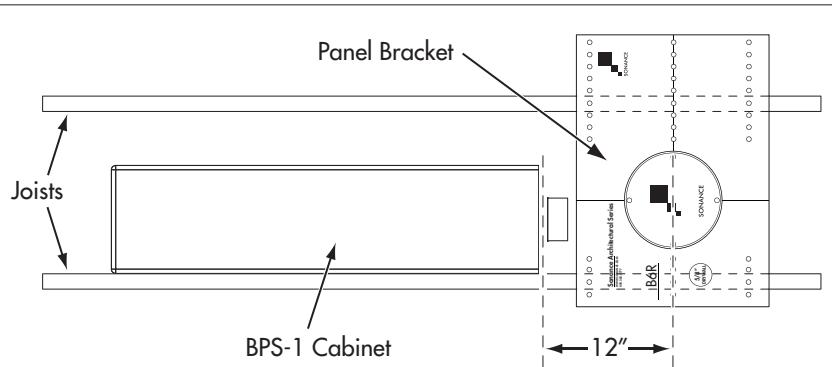

Figure 2: Positioning the BPS-1 Relative to the Panel Bracket
**IMPORTANT: THE CENTER OF PANEL BRACKET'S SPEAKER OPENING SHOULD BE APPROXIMATELY 12" FROM VENT TUBE END OF BPS-1 ENCLOSURE (SEE FIGURE 2). MAINTAINING THE VENT TUBE'S PROPER LENGTH IS INTEGRAL TO THE BPS-1'S ACOUSTIC PERFORMANCE. LENGTHENING OR SHORTENING THE VENT TUBE TO FIT A DIFFERENT DISTANCE WILL ADVERSELY AFFECT THE BPS-1'S PERFORMANCE.**
- Determine the location for the Architectural Series Panel Bracket and install it first (its location may be influenced by the locations of other AS speakers in the room). Then establish the location for the BPS-1 cabinet relative to the Panel Bracket. The vent end of the BPS-1 cabinet should be located 12" from the center of the Panel Bracket's speaker opening (see *Figure 2*, on page 2).